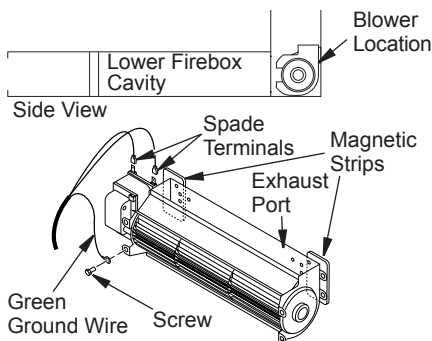

Figure 25 - Blower Model BK
1. Attach power cord to blower motor by firmly pushing two female terminals at end of power cord onto two spade terminals on blower motor (see Figure 25).
2. Attach green ground wire from power cord to blower housing using screw provided (see Figure 25). Tighten screws securely.
3. Place blower against lower rear wall of firebox outer wrapper with exhaust port directed upward. The blower will fit inside back opening and be held in position against back wall by magnets (see Figure 25).